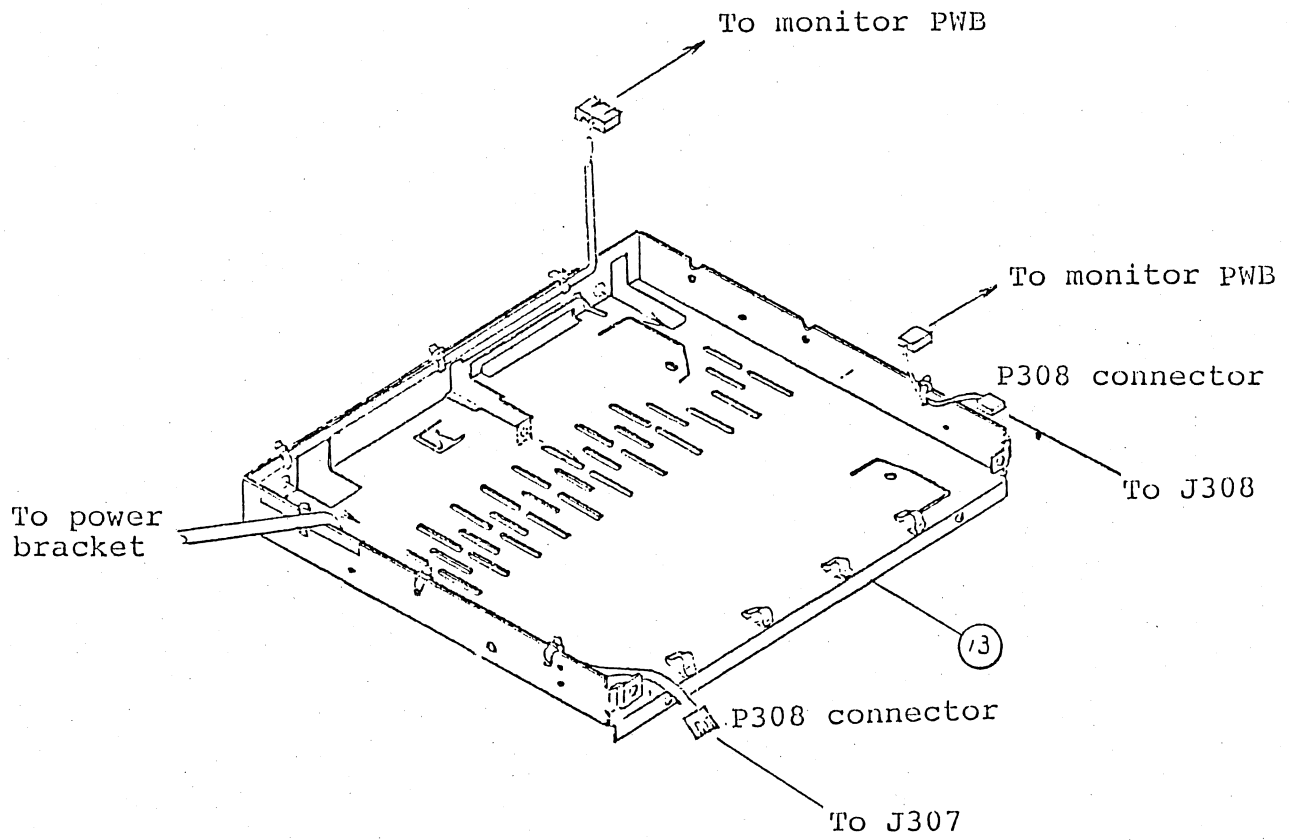

Fig. 6-1-2 Removal of Logic PWB
- (1) Turn OFF the POWER switch and remove the power cord and the keyboard cable on the back and front of the display unit, respectively.
- (2) Remove the two screws (Part E: No. 2) on the back of the display unit.
- (3) Remove the two connectors (P307 and P308) on the logic PWB. (See Fig. 6-1-2.)
- (4) Pull out the logic PWB by pushing it up.